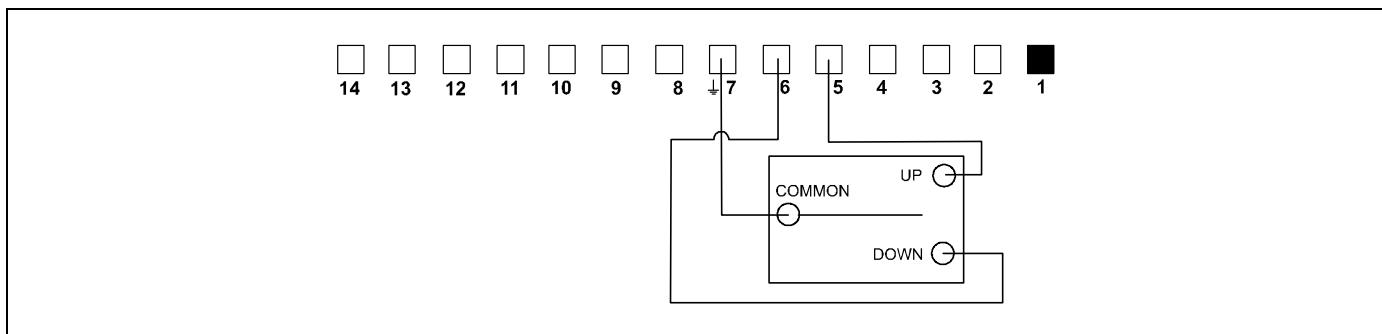

Figure 31
**NOTE:** If operation of the mount is required at a greater distance than remote control will allow, the mount can be controlled through a hardwired switch or similar device. See **Dry Contact Closures** and (See figure 31).
1. Connect the common wire from your switch to terminal 7. (See figure 31)